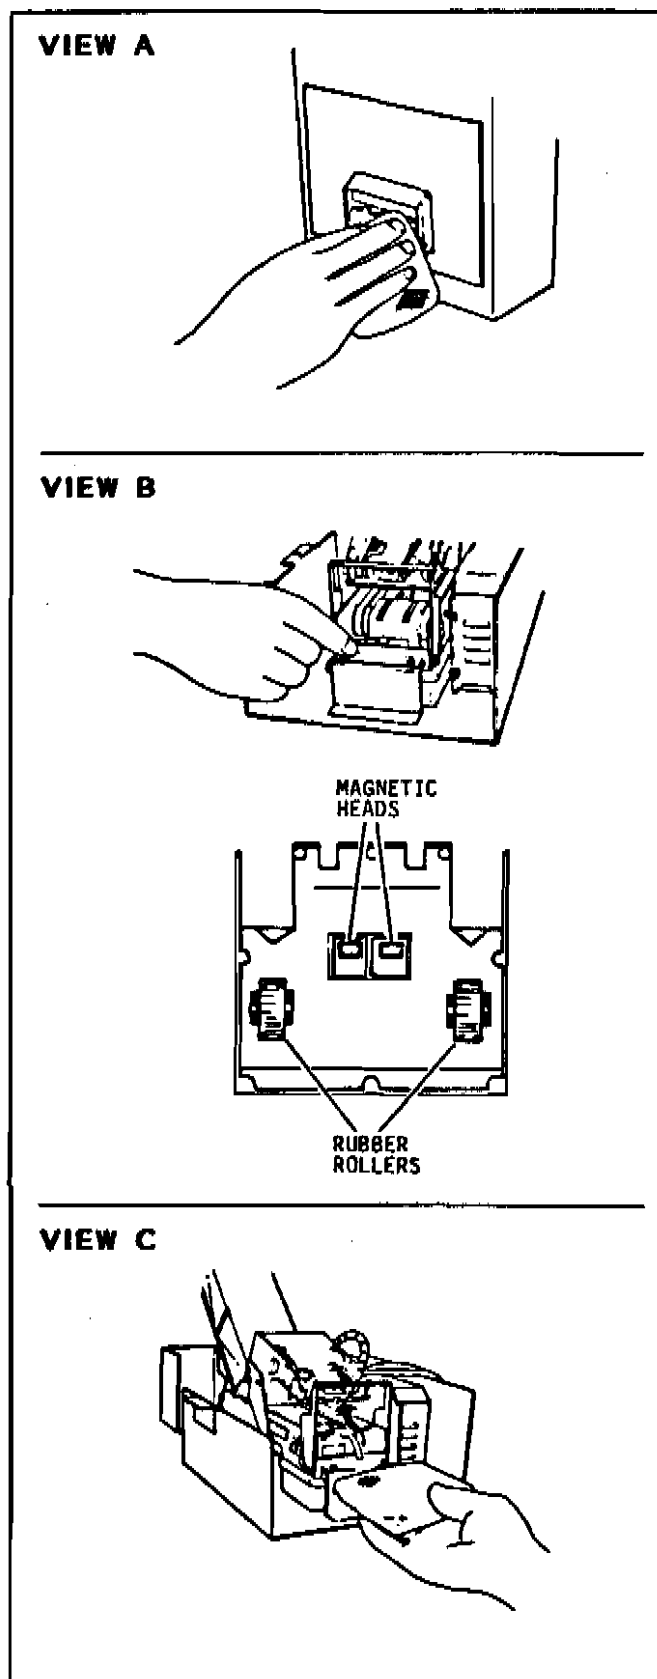

Figure 4-2. Bill Validator Cleaning
A. To clean the Bill Validator (optional), see Figure 4-2 and do the below: